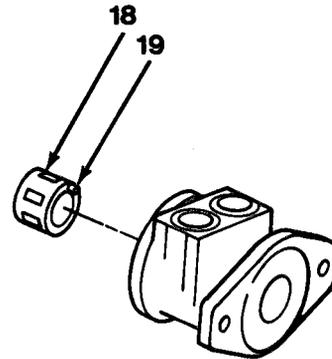

Figure 13-5
8. Install new drive pin (19), if removed, into commutator (18, Figure 13-5) drive pin hole until it bottoms out.